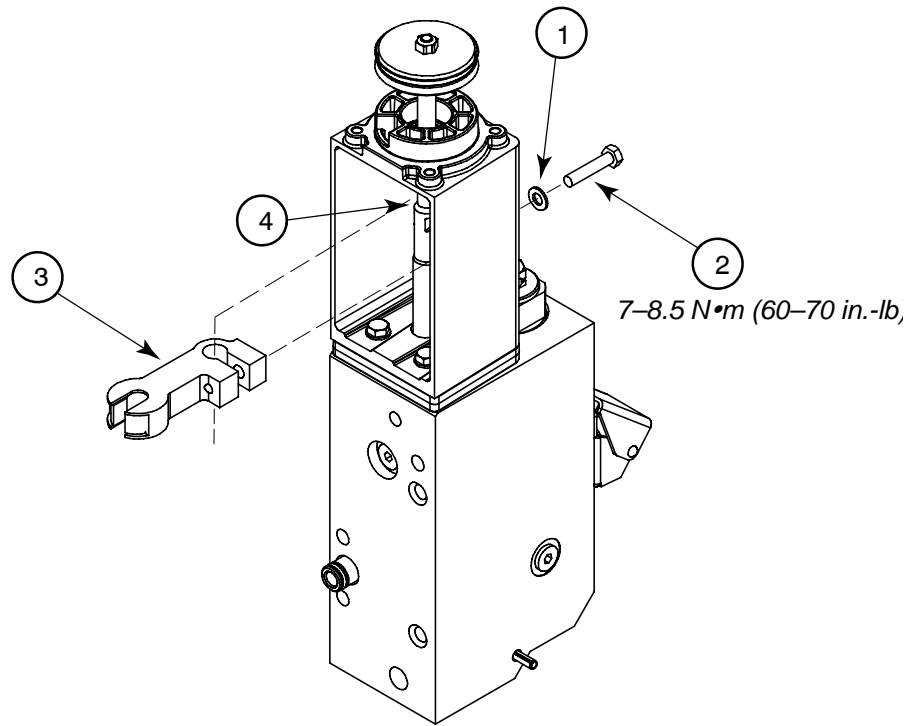

Figure D-9
See Figure D-9.
- The fork must be resting on the shoulder of the piston (See Figure D-9, item 4).